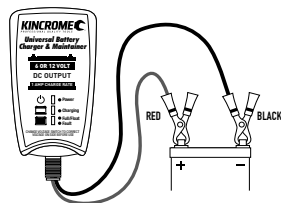

Fig. 1
- Connect the BLACK (-) Crocodile clip or ring terminal to the negative (-) battery terminal (Fig.1).